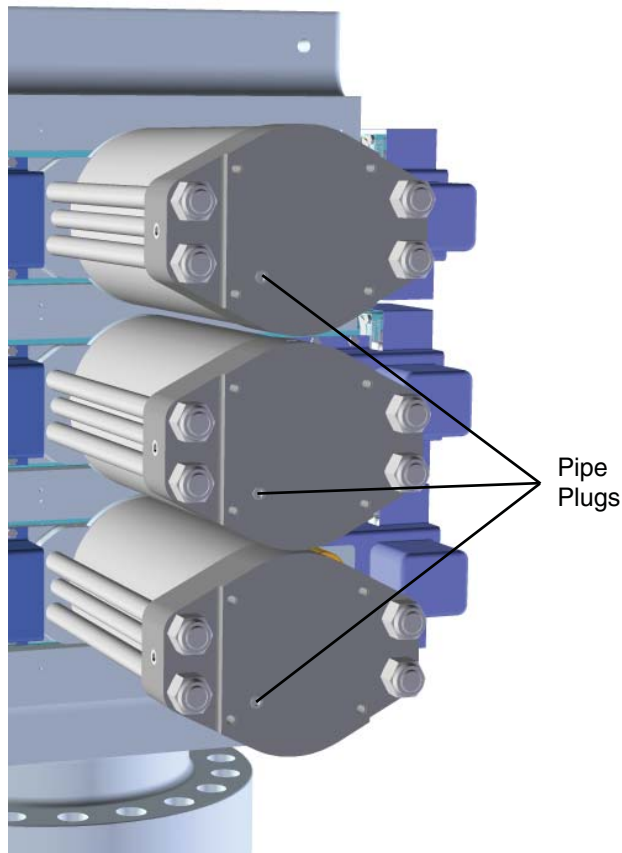

Figure 5-3. Pipe Plug on Cylinder Head
1. After bleeding all hydraulic pressure to 0 psi (0 bar), remove the $\frac{3}{4}$ " pipe plug on the end of the cylinder head (see Figure 5-3).